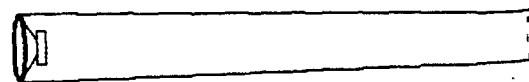

FIGURE 12-10: Transmission line.
**Transmission-line** enclosures consist of a long tapered tube behind the driver (Fig. 12-10). This tube is called a transmission line or just "line." Its careful design can solve most woofer enclosure problems.